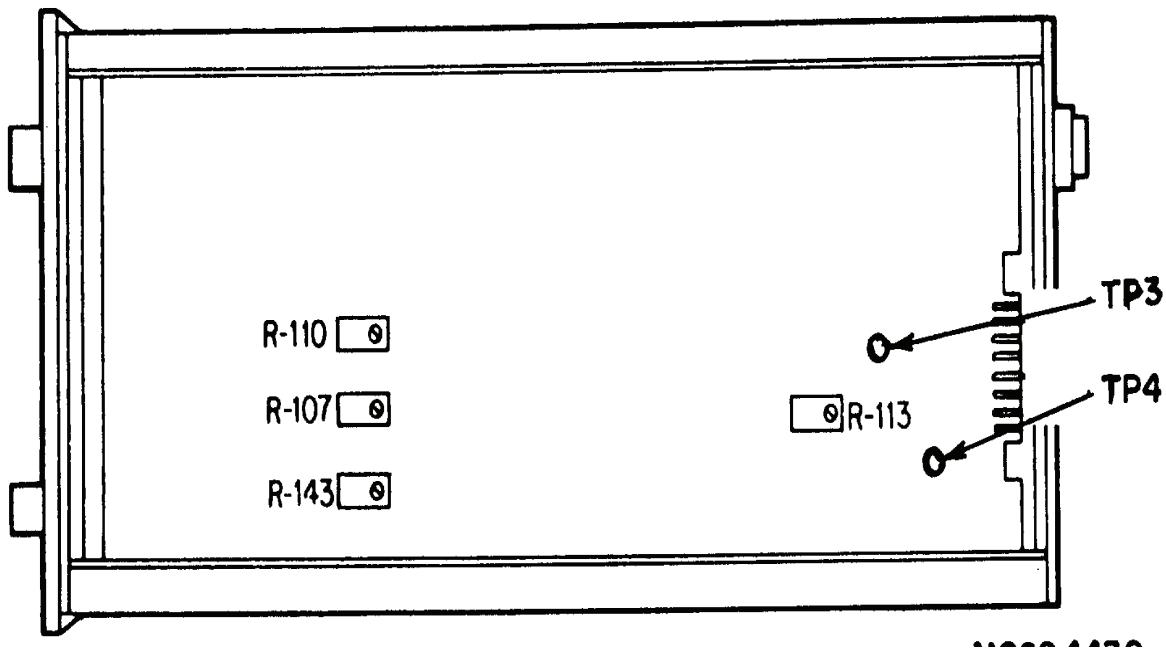

Figure 4. Model 13-4618-00 - side view.
- (1) Connect multimeter negative lead to TP3 and positive lead to TP4 (fig. 4).
- (2) Set **DEVIATION RANGE** switch to **OFF**. If multimeter does not indicate 0 ± 10 mV, perform **b** (1) below.
- (3) Connect calibrator to TI input (rear) connector pins 1 and 2.
- (4) Set **DEVIATION RANGE** switch to **.5**.
- (5) Set calibrator for a 10 V at 50 Hz output. If multimeter does not indicate 0 ± 100 mV, perform **b** (2) below.
- (6) Set **CENTER FREQUENCY** switch to **60**.
- (1) Adjust R-113 ZERO (fig. 4) for 0.0 V indication on multimeter (R).
- (2) Adjust R-110 50 HZ (fig. 4) for 0.0 V indication on multimeter (R).
- (3) Adjust R-107 60 HZ (fig. 4) for 0.0 V indication on multimeter (R).
- (4) Set **DEVIATION RANGE** switch to **5**.
- (5) Adjust calibrator for 10 V at 55 Hz output and adjust R-107 60 HZ (fig. 4) for a multimeter reading of -2.500 V (R).
- (6) Adjust calibrator for 10 V at 65 Hz output and adjust R-143 SPAN (fig. 4) for a multimeter reading of +2.500 V (R).
- (7) Repeat (5) and (6) above to eliminate interaction.
- (8) Slide all manual ink valves with tubing attached to **OFF** position on recorder.